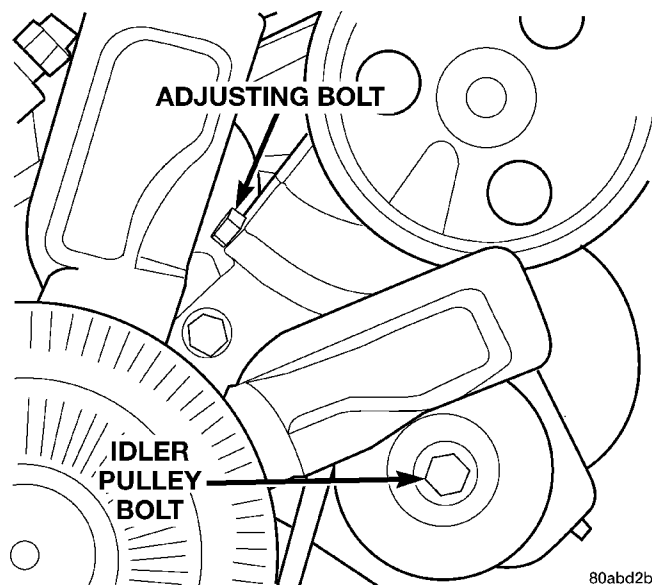

Fig. 63 Power Steering Pump Bracket and Idler Pulley
- (1) Disconnect negative battery cable from battery.
- (2) Loosen idler pulley bolt (Fig. 63).
- (3) Loosen tension adjusting bolt (Fig. 63) and remove accessory drive belt.
- (2) Install new belt. Install belt tension gauge C-4162 and tighten adjustment bolt (Fig. 63) until belt tension is within specification range. Refer to the end of this group for Drive Belt Tension specifications.
- (3) Tighten idler pulley bolt and re-check belt tension. Adjust if necessary.